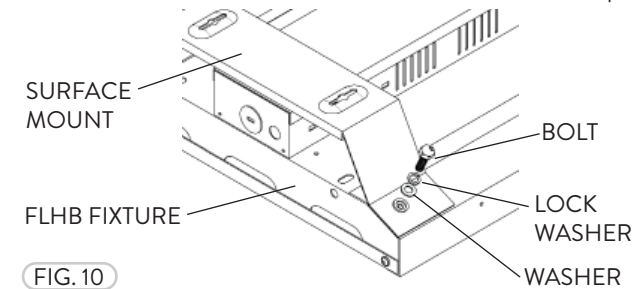

FIG. 10
- 2 Once the Surface Mounting are installed onto the surface and properly secured, place fasteners through the two holes on the bottom slanted surface to the FLHB Fixture (Fig. 10). Fasten the Bolt, Lock-Washer and Washer to the FLHB Fixture (not provided).